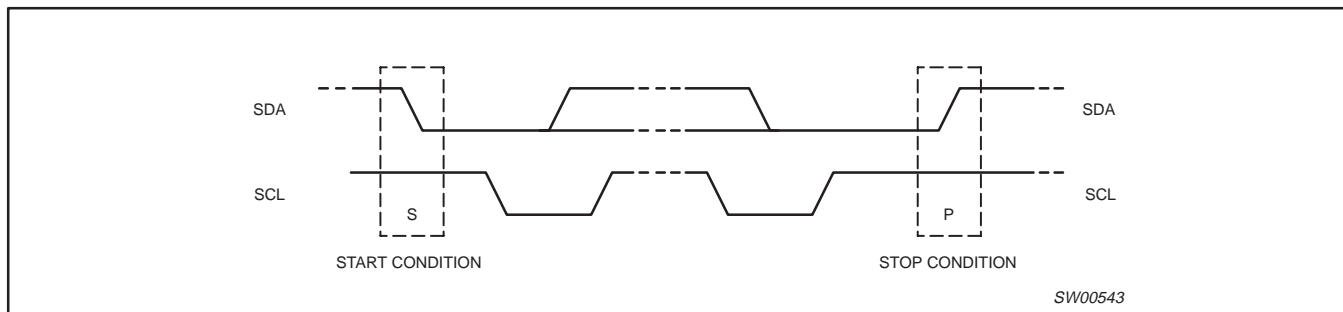

Figure 14. Definition of start and stop conditions
Both data and clock lines remain HIGH when the bus is not busy. A HIGH-to-LOW transition of the data line, while the clock is HIGH is defined as the start condition (S). A LOW-to-HIGH transition of the data line while the clock is HIGH is defined as the stop condition (P) (see Figure 14).